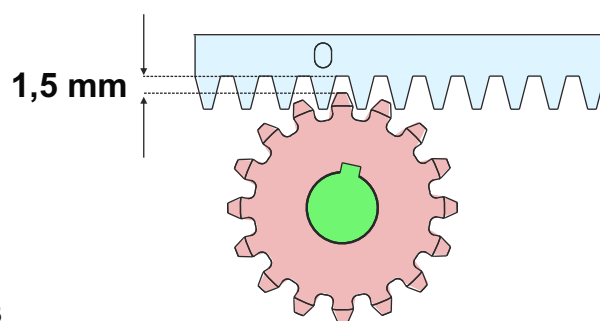

Fig. 13
5.6. To avoid that the gate weights down the pinion - Fig.13 - lift up the whole rack about 1,5 mm.